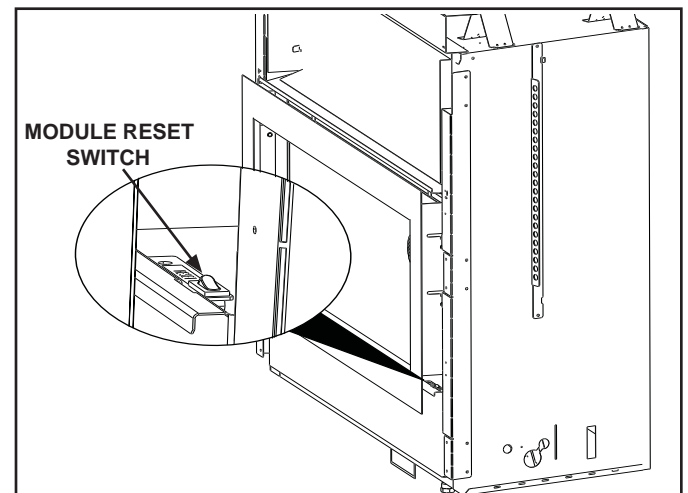

Figure 2.4 Location of Module Reset Switch - Tonic Front
- Locate the module reset switch. See Figure 2.4 or 2.5.
- Wait five (5) minutes to allow possible accumulated gas to clear.